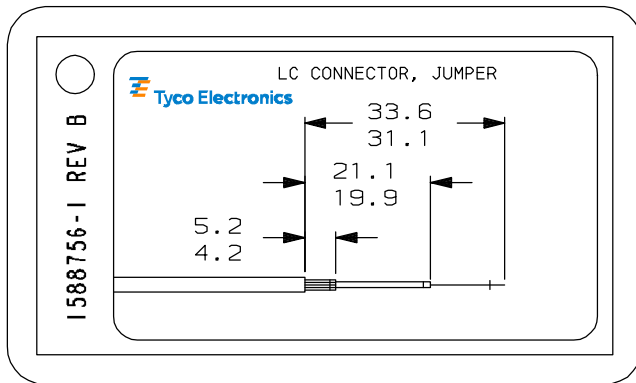

Figure 4
2. Using the combination strip tool and Aramid shears, strip the cable using the cable preparation template (dimensions are to scale) or use the dimensions given in Figure 4, exposing the glass cladding.